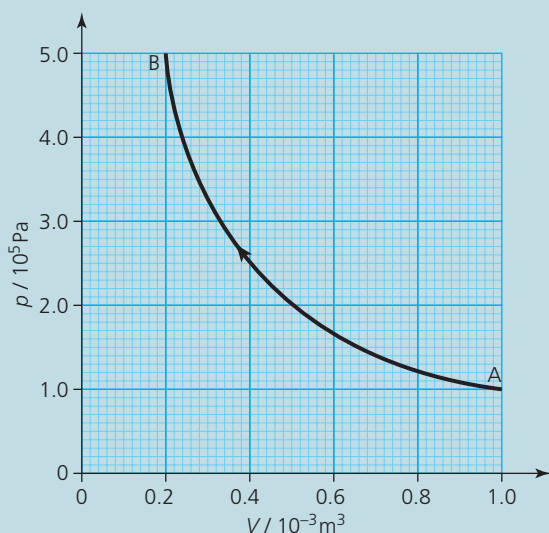

Figure 6
- The curve AB in Figure 6 shows the isothermal compression for 0.12 mol of an ideal gas.